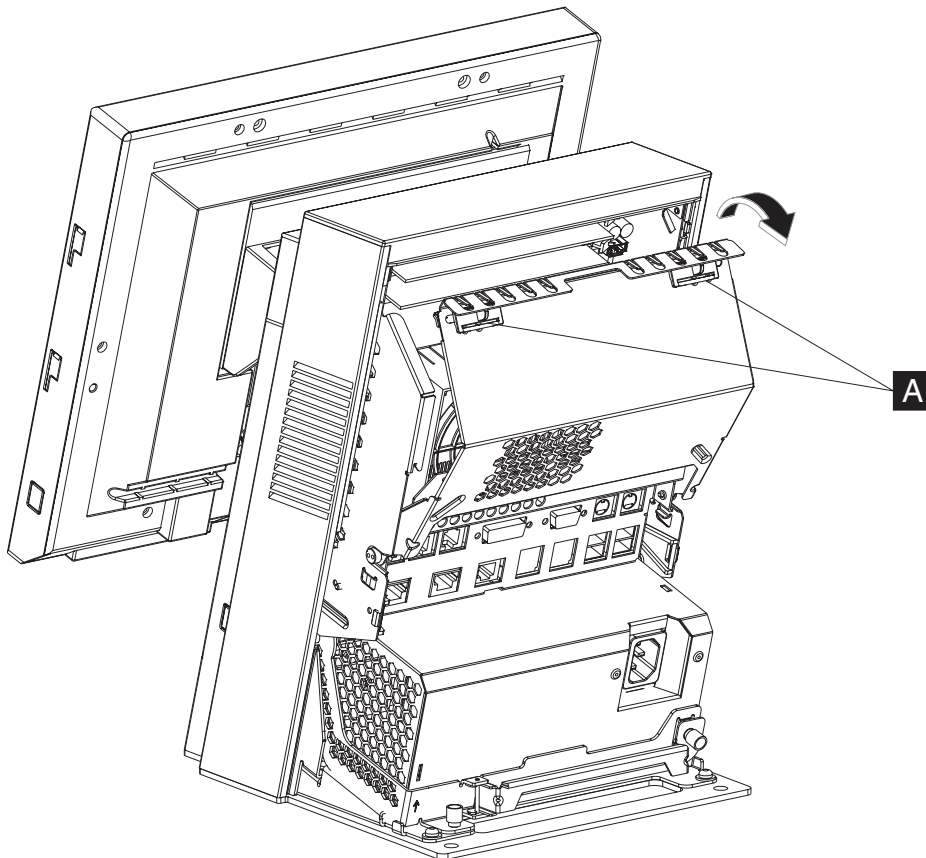

Figure 9. Opening the I/O tailgate cover
- Unlatch the I/O tailgate cover by sliding the latches (**A** in Figure 9) toward the center.